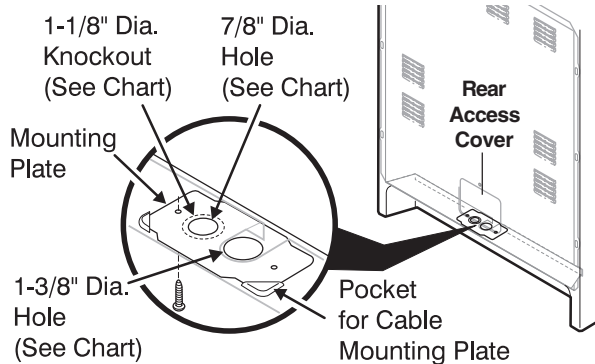

Fig. 9
See Range Connection Opening Size Chart (Figs. 9 & 10) for cord kit ampere rating information. Terminals on end of wires must be either closed loop or open-end spade lugs with upturned ends.
The Rear Access Cover must be removed (Fig 9). To remove, loosen center screw (one screw) and remove cover. The terminal block will then be accessible.
NOTE: Range is shipped from factory with 1-3/8" dia. hole as shown. To use either 7/8" dia. hole or 1-1/8" dia. knockouts refer to Fig. 9.
1. Follow the manufacturer's installation instructions supplied with the strain relief and install (Also see Figs. 9, 10 & 11).
5. Make sure all screws are tightened securely and replace the rear access cover (See Fig. 9).
3. Make sure all connections are tightened securely and replace the rear access cover (See Fig. 9).